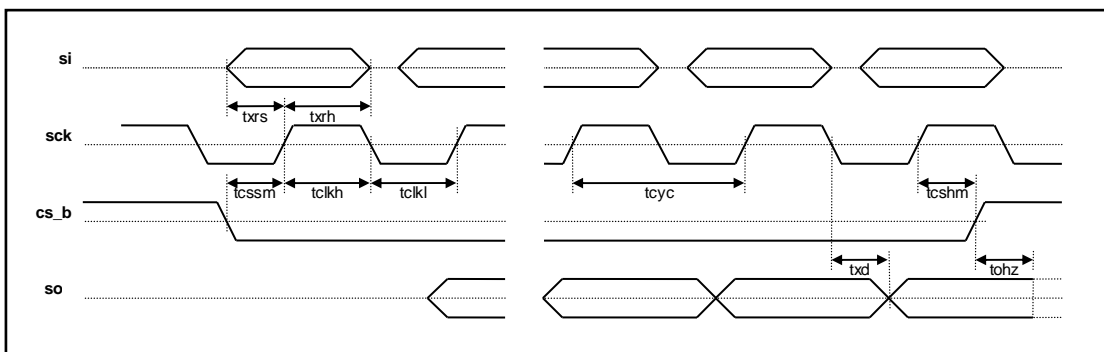

Figure 47. SPI (Serial Peripheral Interface) Timing - MSB First Mode
* For MSB first mode timing diagram, refer to Figure 47